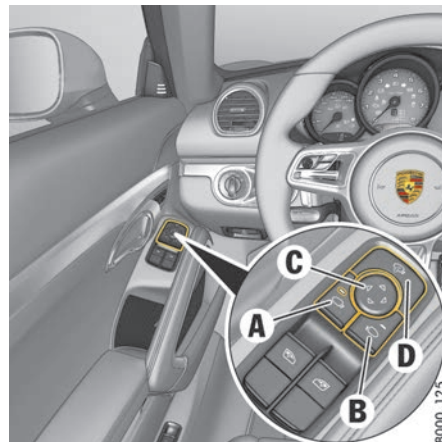

Fig. 131: Exterior mirror operation
- ▶ Press button **D** (see Fig. 131 on page 153). Both exterior mirrors fold in or out.
The exterior mirrors do not fold out automatically after the ignition is switched on if they were folded in manually beforehand using button **D** (Fig. 131 on page 153).